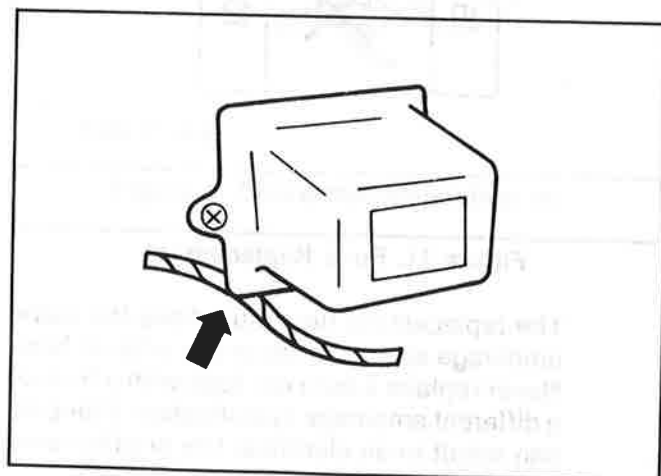

Figure 13. Wiring Harness (1)
1. When assembling the parts, be careful not to bite or wedge the wiring harness (figure 13).